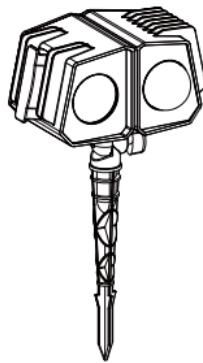

Fig. 1
2. Use the screw to attach the stake to the pivot mount (see fig. 1).